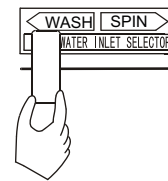

Figure 1
(1) Set the water-filling selector at the "WASH" side. (Figure 1)